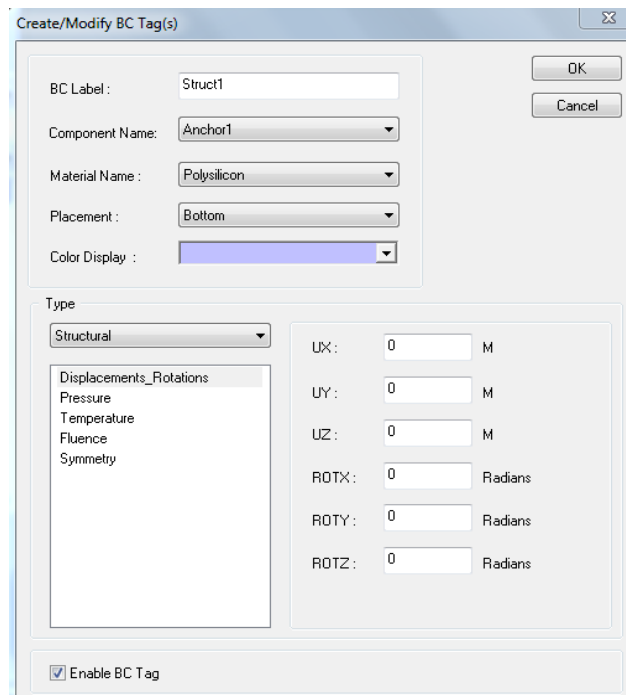

Figure 151: Specifying Structural BC Tag.
- ☑ To specify the structural BC tag, as shown in (Figure 151):